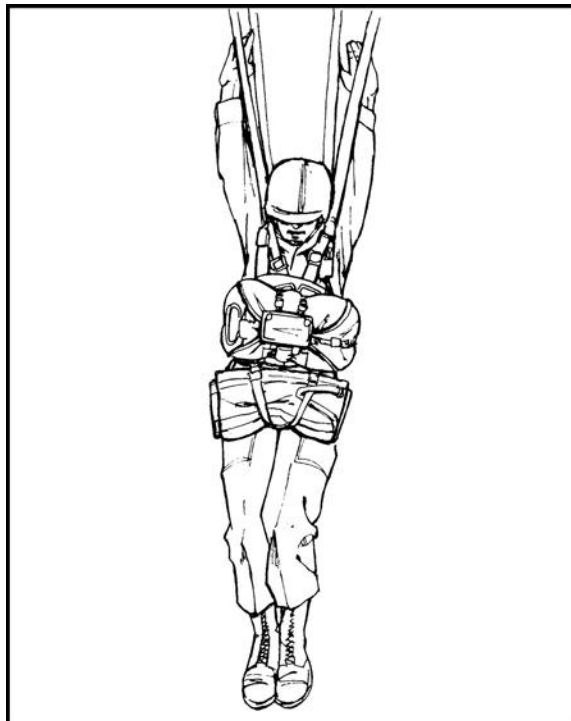

Figure 3-5. Wire landing attitude.
(3) *High Tension Wire Landing.* The parachutist does the following if unable to avoid high tension lines when landing (Figure 3-5):